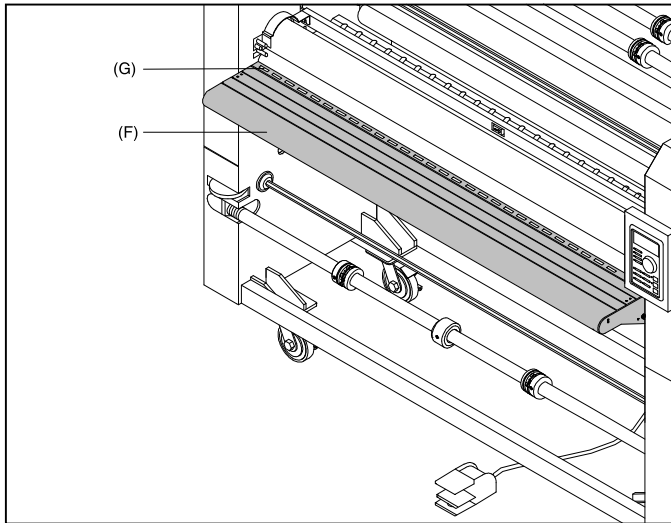

Fig. 14
F. FEED TABLE: (Figure 14) The Feed Table is used to position items for lamination. To pivot the feed table, remove the safety shield, lift up on the feed table, pull back, then carefully lower. **The laminator will operate only when the Feed Table is properly installed.**
G. VACUUM: (Figure 14) The vacuum is used to assist in keeping the material flat against the feed table as it is introduced into the heat rollers. This feature can be controlled from the control panel.